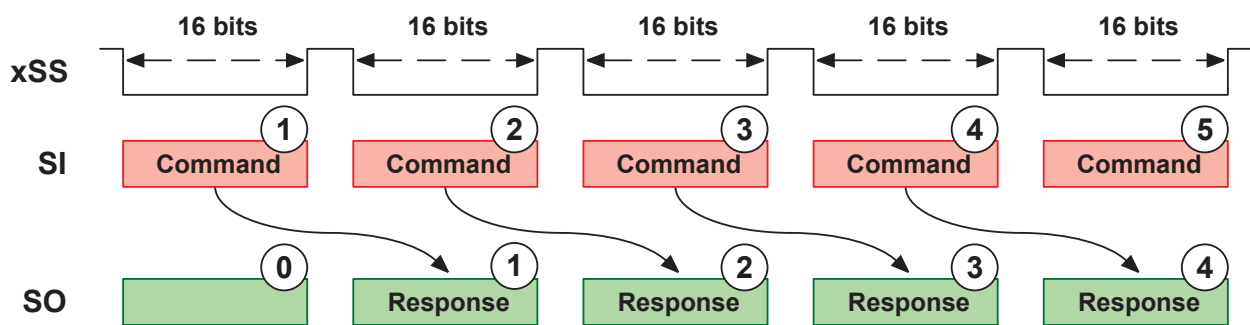

Figure 5: SPI overlapped packet structure
SPI communication uses an overlapped packet structure where the response to a command is returned while the next command is being sent. Figure 5 shows this for a single-device application (where the host controls a single iC-TW11 slave). See BUSSING MULTIPLE ICs on page 23 and CHAINING MULTIPLE ICs on page 24 for multiple device applications.
SPI command and response packets are always 16 bits long. The host initiates communication with the iC-TW11 by driving slave select (xSS) low and then clocking a 16-bit command (1) to the slave input, SI. The serial clock (SCLK) signal is not shown in Figure 5. The host drives xSS high at the end of the command packet and the iC-TW11 executes the command.